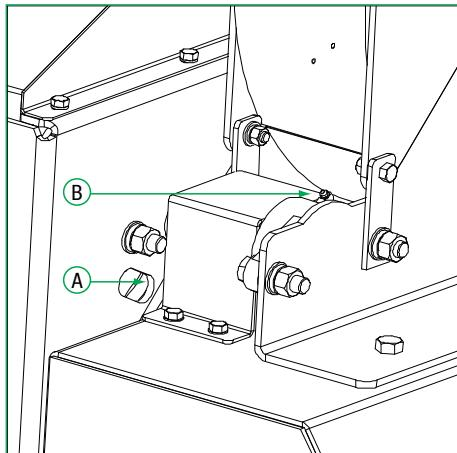

Fig. 1
- ✓ A, B (Fig.1) transmission shaft bearing.